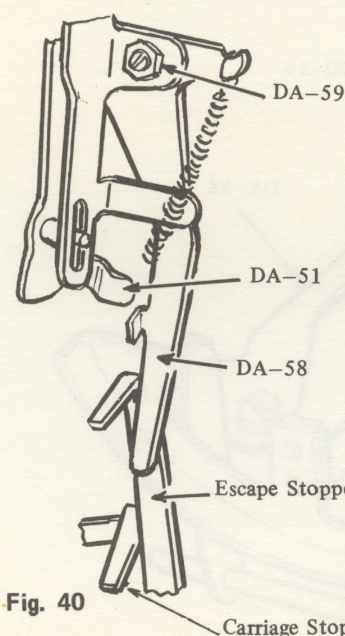

Fig. 40
- (2) Adjust with DA-59 (Eccentric Stud Screw) to obtain 0.05 to 0.20 mm of clearance ② between DA-58 (Escape Stopper) and DA-59 (Universal Bar). (Fig. 40, 41)
- (3) Adjust with bending DO-20 (Carriage Stopper Unit) to obtain the clearance ③ as 0.1 to 0.8 mm for Pica type and 0.1 to 0.3 mm for Elite type.
Care should be exercised to eliminate any distortion on DO-46 (Tab Release Wire) which is connected to DO-20. (Fig. 40, 41)
- (4) The related position between DA-58 and DA-51 will be changed by shift operation, and adjust the clearance ④ by bending DA-51 to obtain the same clearance in either case. (Fig. 40, 41, 42)